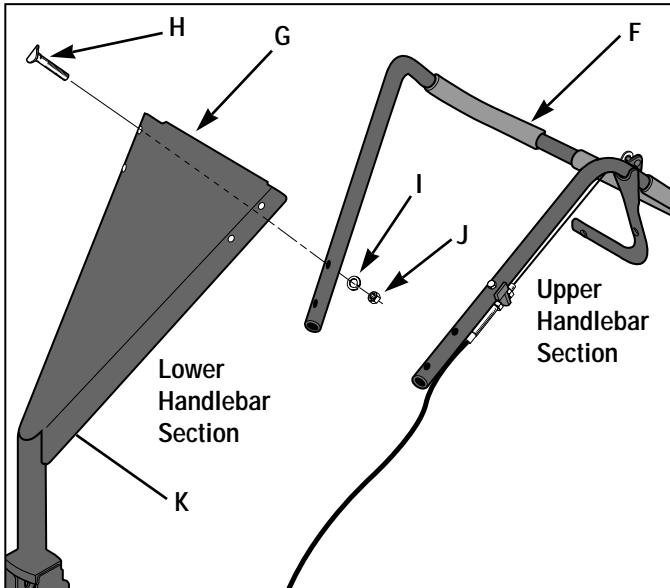

Fig. 2-4
1. Align the mounting holes in the upper handlebar section (F, Fig. 2-4) with the corresponding mounting holes in the lower handlebar section (G).
2. Insert four 5/16"-18 x 1-1/2" curved head screws (H, Fig. 2-4) **DOWN** through the holes in the two handlebar sections. Install the top screws first for easiest installation. Secure the screws with four 5/16" lockwashers (I), and four 5/16"-18 hex nuts (J). Tighten with a 1/2" wrench.
3. Press the handlebar control cable into the plastic clip (K, Fig. 2-4) underneath the left side of the control panel.